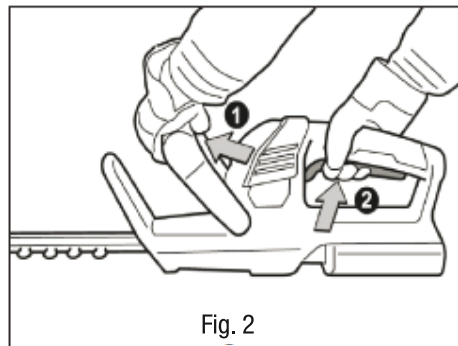

Fig. 2
- Hold the hedge trimmer firmly with both hands and simultaneously press the trigger of the rear handle with the right hand and the safety switch of the front handle forward with the left hand, as shown in Figure 2.